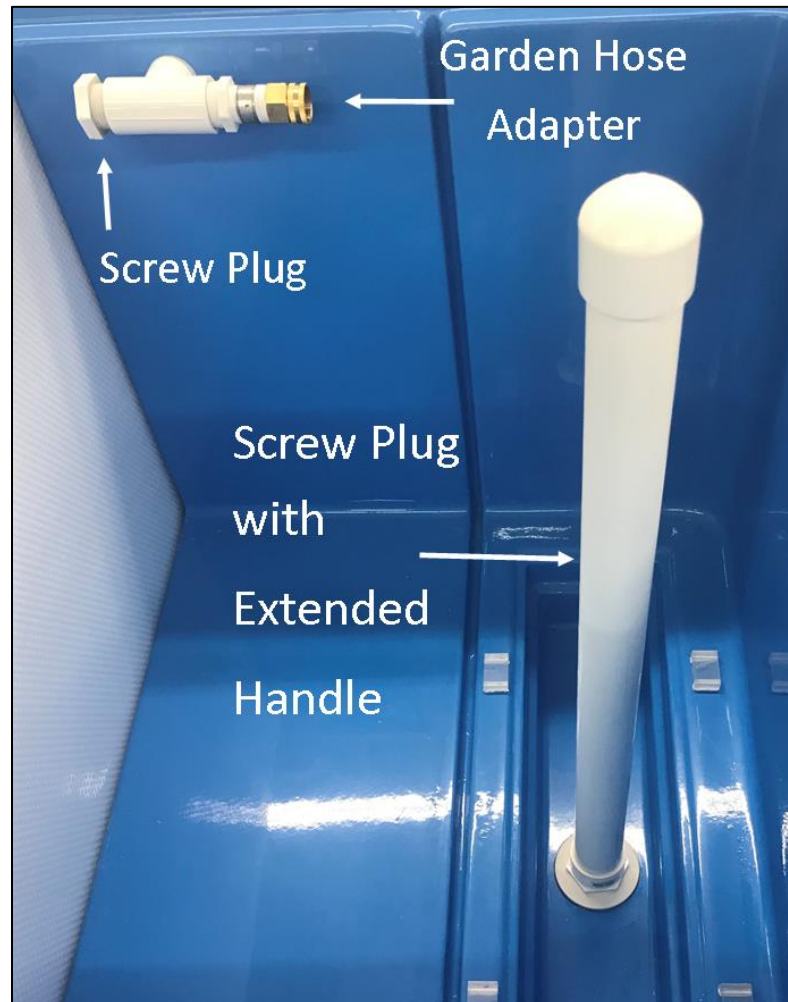

Figure 3 – image of the components installed.
4. Carefully attach the screw plug with extended handle into the drain inside the tank and attach the screw plug and the garden hose adapter to opposite ends of the spray bar using a clockwise motion until a good seal is made. Do not over-tighten. See Figure 3.